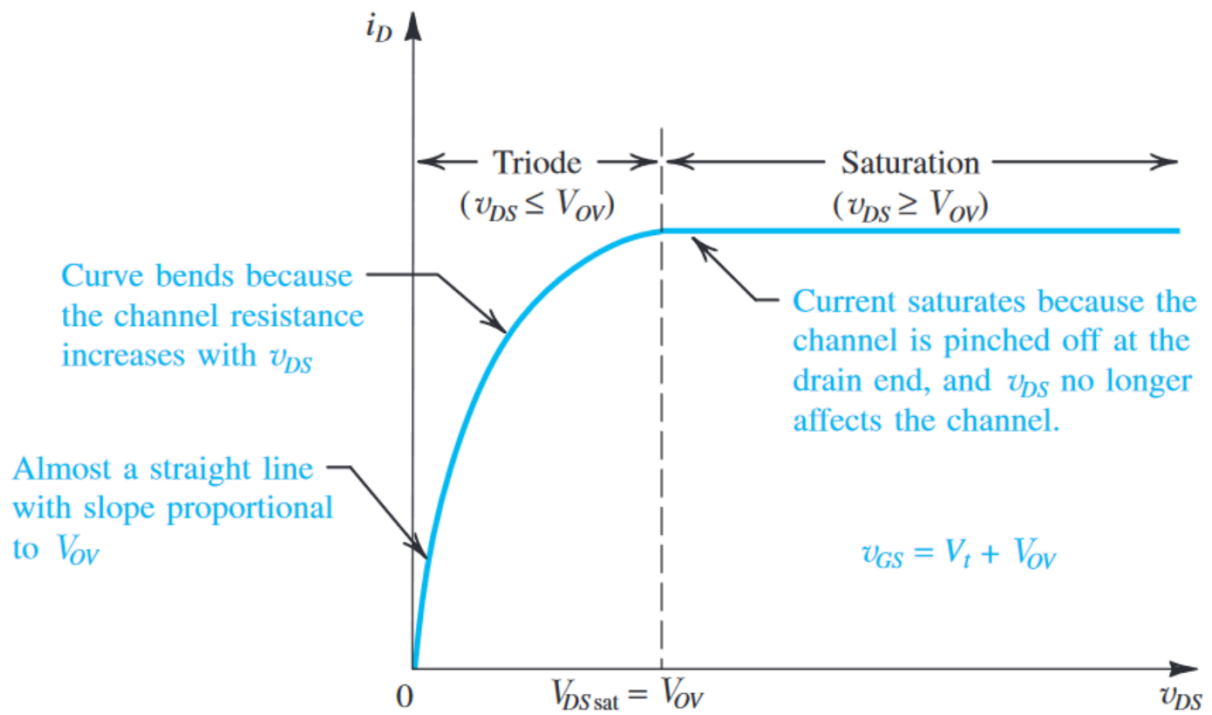

Figure 7: The drain current I_D versus the drain-to-source voltage V_{DS} for an enhancement-type NMOS transistor operated with $V_{GS} = V_{th} + V_{OV}$.
As V_{DS} is increased, the channel becomes **more tapered** and its resistance increases correspondingly. Thus, the $I_D - V_{DS}$ curve does not continue as a straight line but bends as shown in Figure 7. The equation describing this portion of the $I_D - V_{DS}$ curve can be easily derived by utilizing the information in Figure 6. Specifically, note that the charge in the tapered channel is proportional to the channel cross-sectional area shown in Figure 6(b). This area in turn can be easily seen as proportional to $\frac{1}{2}[V_{OV} + (V_{OV} - v_{DS})]$ or $(V_{OV} - \frac{1}{2}v_{DS})$. Thus, the relationship between I_D and V_{DS} can be found by replacing V_{OV} in Equation (7) by $(V_{OV} - \frac{1}{2}v_{DS})$ thus: